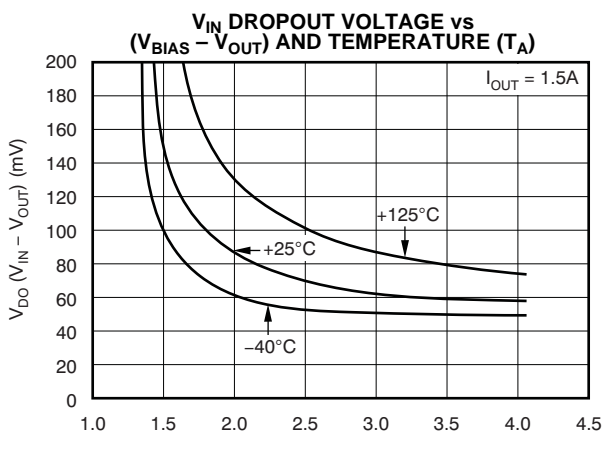

Figure 8.
(1) Adjustable devices tested at 0.8 V; resistor tolerance is not taken into account.
(2) Dropout is defined as the voltage from V_{IN} to V_{OUT} when V_{OUT} is 3% below nominal.
(3) 3.25 V is a test condition of this device and can be adjusted by referring to Figure 8.